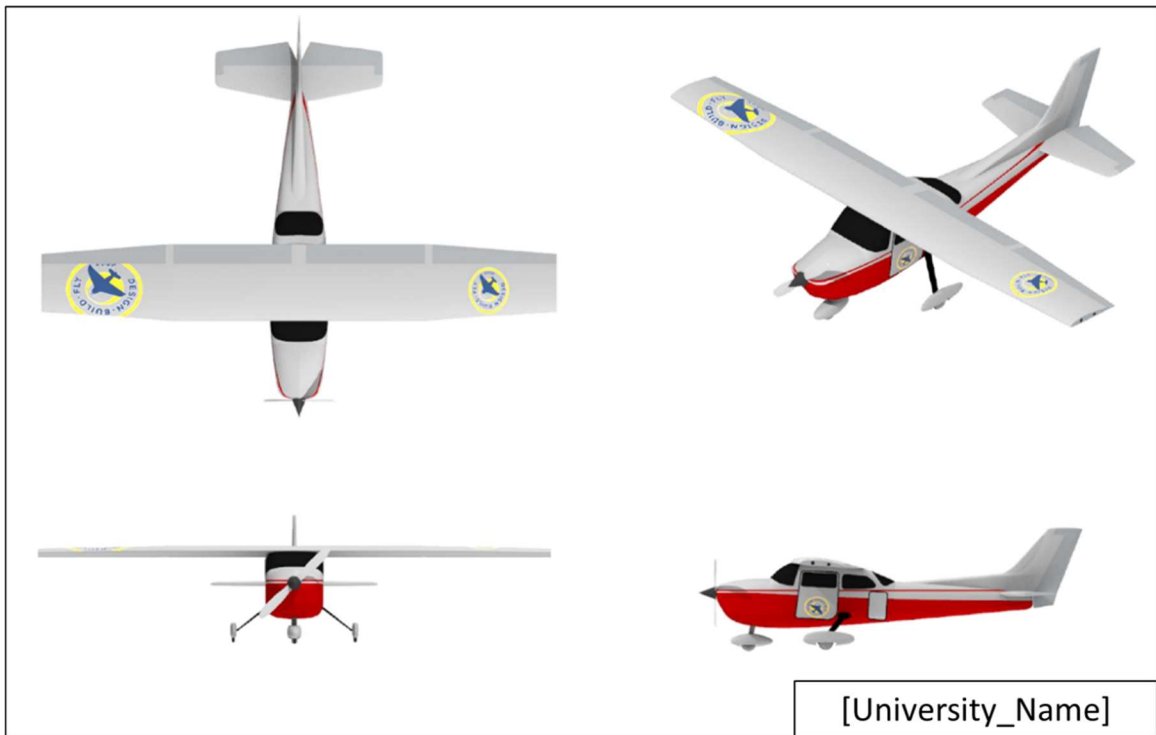

Figure 7. Configuration Drawing Format and Content.
- The configuration drawing must be in the format shown in Figure 7 and must include a top, side, front and isometric view.
Configuration drawings that do not contain the configuration items above or are in the format shown in Figure 7 or meet the file size requirement will incur a 10 point penalty against the design report score.